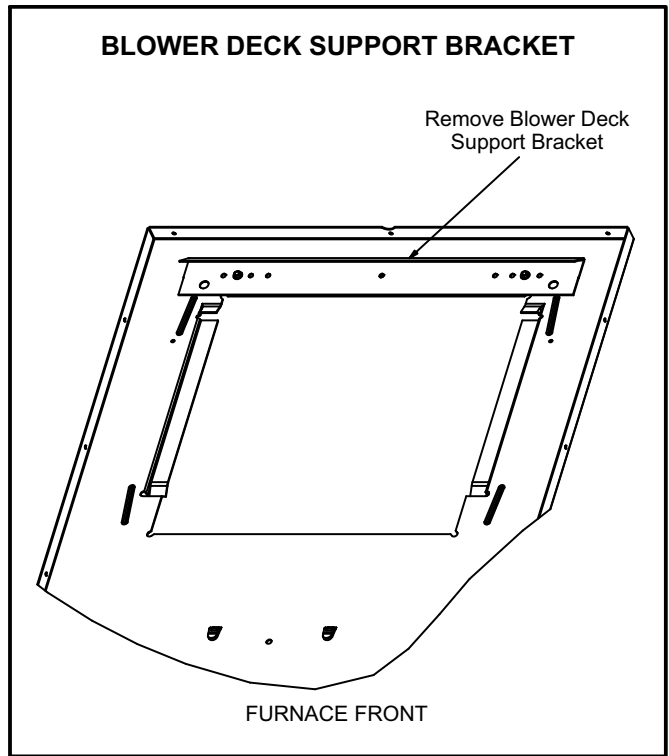

FIGURE 1
- 21 - If the furnace came with a blower deck support bracket as shown in figure 1, remove and discard.